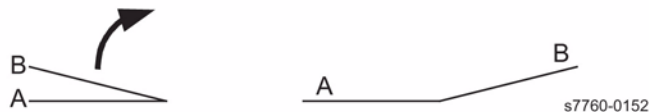

Figure 1 Staple Position
5. Measure A and B on both Booklet jobs and verify X1 against specification in Figure 1.